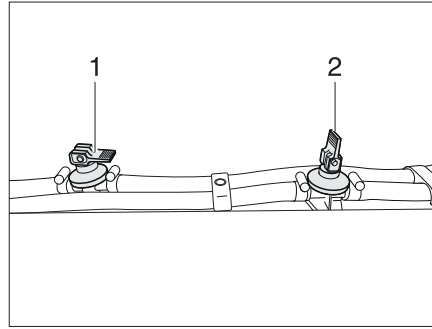

Fig. 347 Drain cock
- Open all drain cocks. To do so, set the rocking lever (in Fig. 347,2) in a vertical position.